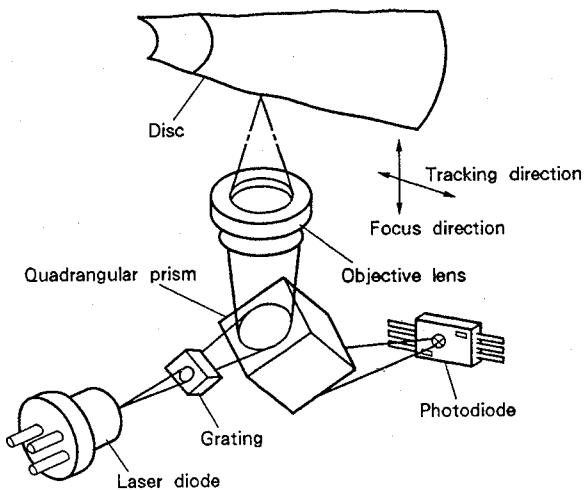

Fig. 9-1 Optical path and parts
Fig. 9-1 shows the configuration of this pickup's optical parts.
#### (3) Simple optical path mad possible by the newly-developed quadrangular prism (Fig. 9-1)